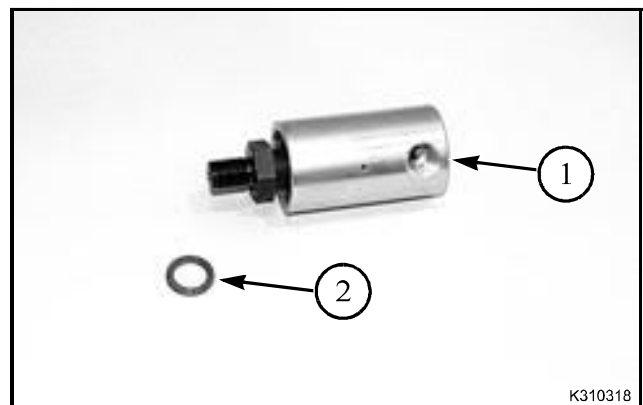

FIG. 17
FIG. 17: Put Loctite® 545 on the threads on the rotary union (1). Install the rotary union onto the hydraulic cylinder. Be sure to install the brass washer (2) between the rotary union and the hydraulic cylinder.